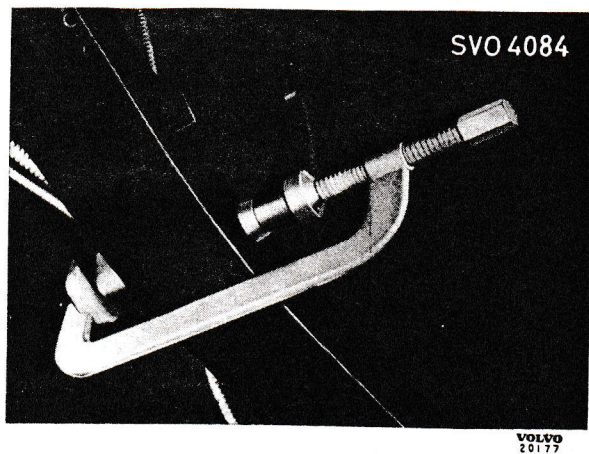
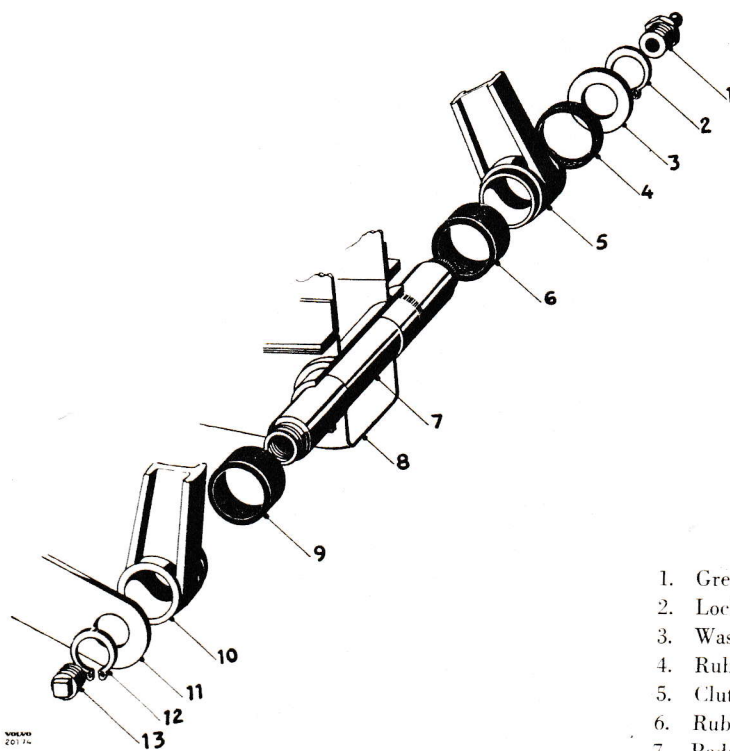

Fig. 15. Fitting the pedals.
Fig. 16. Pedal arrangement.
2. Remove the locking ring (12, fig. 16) from the inner end of the pedal shaft. Drive out the pedal shaft outwards and remove the pedals.
1. First fit washer (3) on the grooved end of the shaft, see fig. 16. Place the ring (2) in position outside the washer.
2. Lubricate the bushing in the clutch pedal, fit the narrow rubber ring (4) on the side which faces outwards and the rubber sleeve (6) on the side of the pedal facing the frame.
3. Fit the clutch pedal on the shaft (7) and move shaft into position in the frame.
4. Fit rubber sleeve (9) on the side of the brake pedal facing the frame. Lubricate the bushing and fit the pedal on the shaft.
5. Then fit on the brace bar (11). Press together the whole with cramp SVO 4084, fig. 15 and fit on lock ring (12).